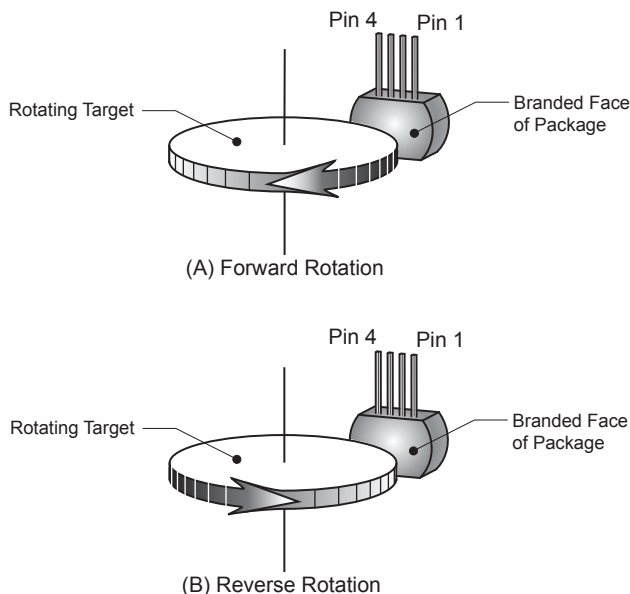

Figure 1. Target rotation
**Forward Rotation** (see panel A in figure 1) When the target is rotating such that a tooth near the package passes from pin 4 to pin 1, this is referred to as *forward rotation*. Forward rotation is indicated on the output by a  $t_{w(FWD)}$  (45  $\mu\text{s}$  typical) pulse width.
**Reverse Rotation** (see panel B in figure 1) When the target is rotating such that a tooth passes from pin 1 to pin 4, it is referred to as *reverse rotation*. Reverse rotation is indicated on the output by a  $t_{w(REV)}$  (90  $\mu\text{s}$  typical) pulse width, twice as long as the pulse generated by forward rotation.